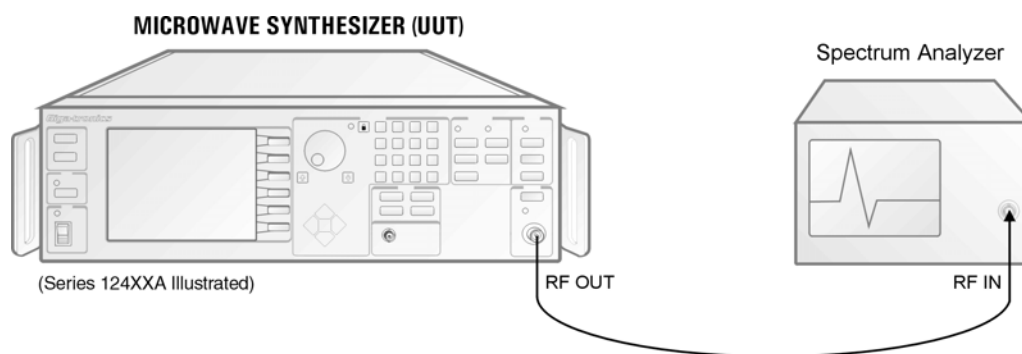

Figure 2-2: Spurious Signals Tests
1. Connect the equipment as shown in Figure 2-2. Allow the equipment to warm up for at least 30 minutes. Press **[CW]** in the FREQUENCY field on the 12000A and enter the first test data sheet frequency within the range of the 12000A. The RF amplitude should be at +6 dBm. Press **[RF ON]** to turn on the RF output. Be certain that all modulation is OFF.